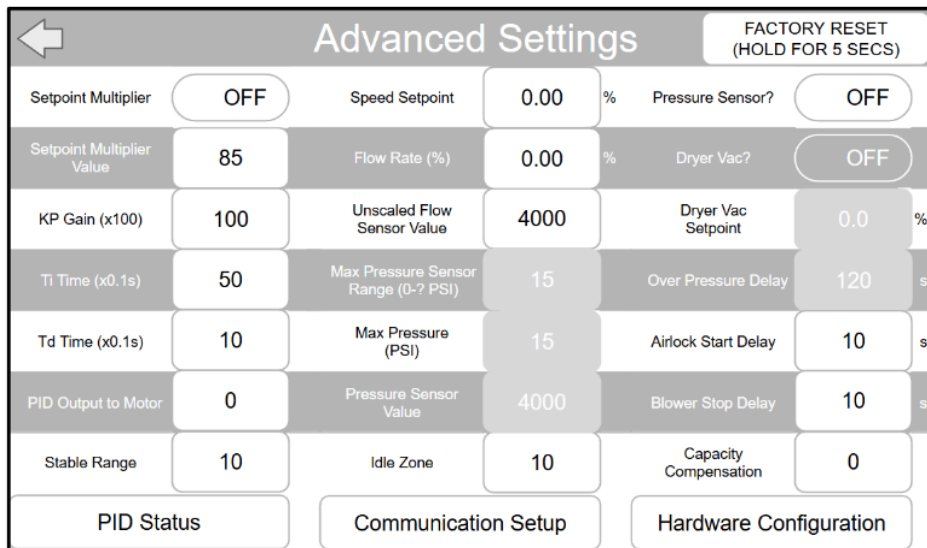

Figure 5-36: Factory reset values
- Press and hold the “Factory Reset” button at the top of the display to ensure there are no parameters that have been configured with unintentional values. The value for each parameter should appear as seen in **Figure 5-36** after the reset.